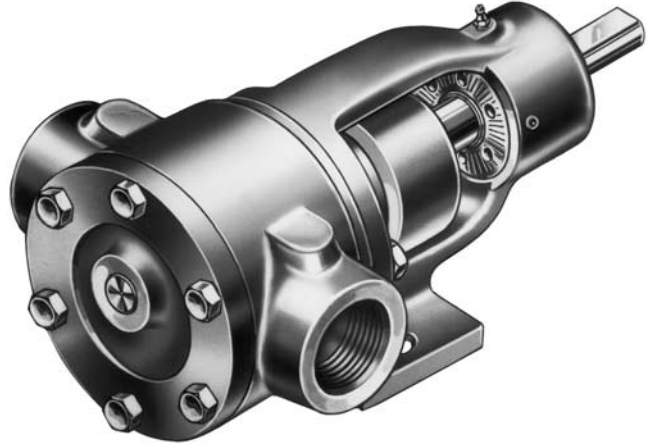
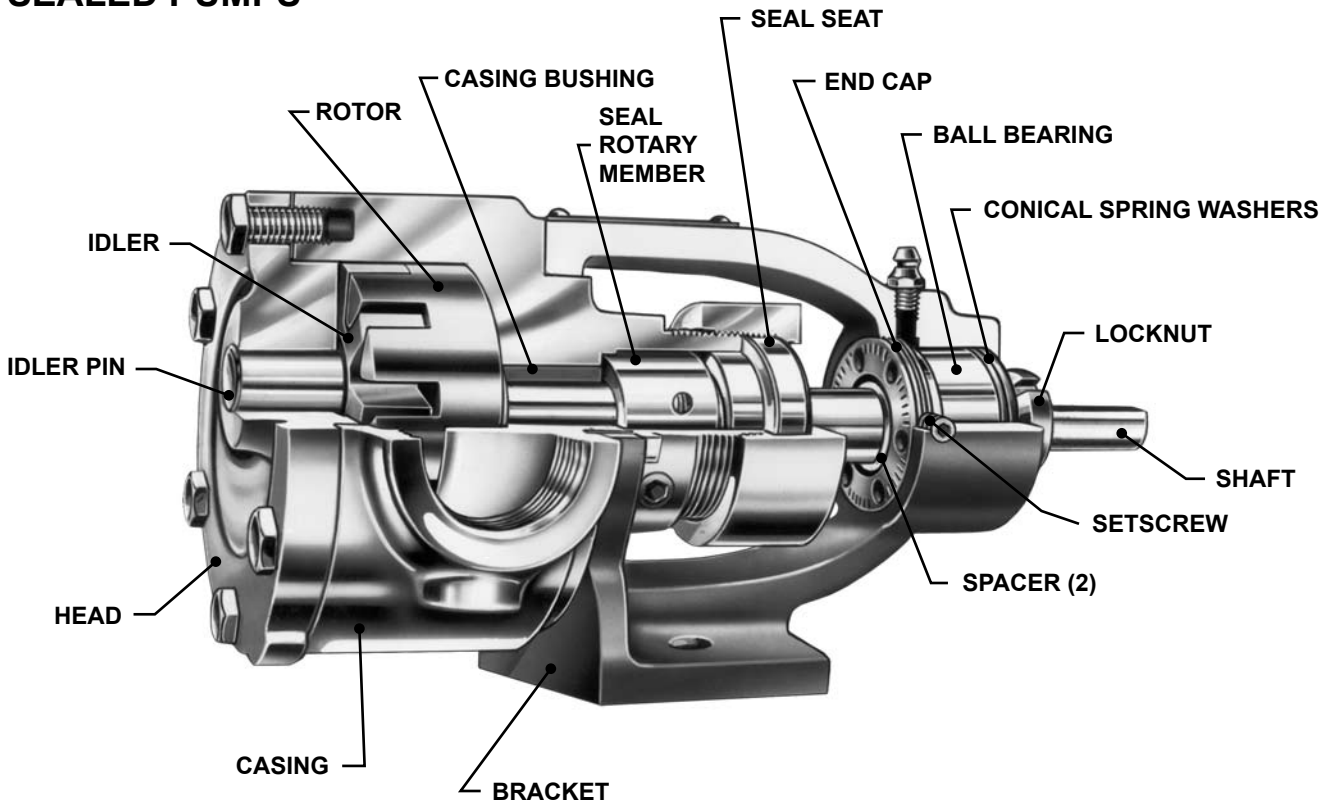

FIGURE 1 - F, FH, G SIZE
FIGURE 2
This maintenance bulletin deals exclusively with the bracket mounted, Heavy-Duty, Stainless Steel Pumps. This type of pump may be equipped with either a Multi-Ring stuffing box with packing, called a Series 724 pump; or a Roto-Ring mechanical seal, called a Series 4724 pump. The figure number and letter prefix, which indicates the basic pump size, make up the pump model. Both the packed and mechanical seal pumps are similar in overall appearance to the pump illustrated in **Figure 1**.
4. Relief valve adjusting screw cap must **always** point towards suction side of pump. If pump rotation is reversed, remove pressure relief valve and turn end for end. **Refer to Figure 1, page 1 and Figures 2 and 3, page 3.**
1. **CAUTION:** When the head is being removed from the pump (See Figure 2), the idler usually stays on the idler pin, but will fall off if the inside of the head is tilted downward. A fall on a hard surface can damage the idler. If the idler should fall, check carefully and file or stone all nicked or rough places before reassembly.